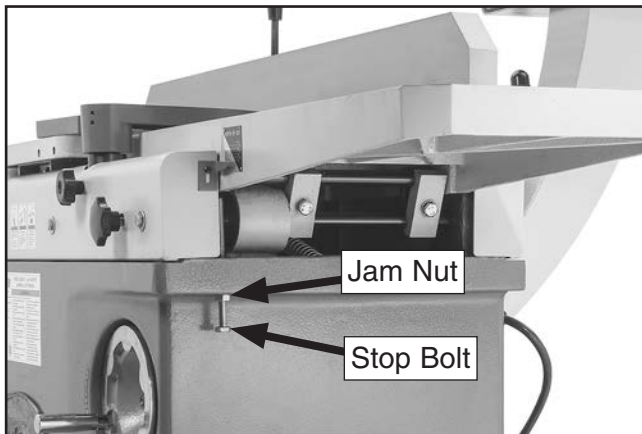

Figure 14. Infeed table stop bolt set to stop infeed table at $\frac{1}{8}$ " maximum depth of cut.
8. Loosen jam nut (see **Figure 14**) on infeed stop bolt, then unthread stop bolt until table can be lowered to $\frac{1}{8}$ " on depth-of-cut scale, then adjust infeed stop bolt back against infeed table casting and tighten jam nut.